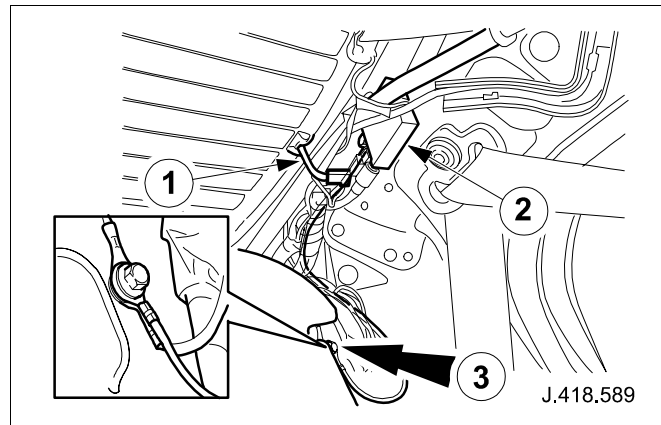

Fig. 1
- 2 Carefully unclip the antenna harness (As indicated at 1 Fig. 1) from the screen connections and disconnect from the antenna module. (As indicated at 2 Fig. 1)